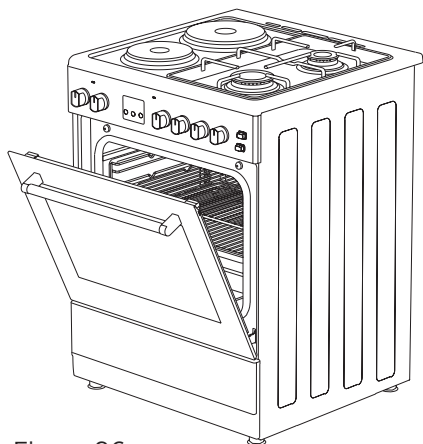

Figure 26
3. Place the safety panel under control panel by opening the oven front cover glass (Figure 26)